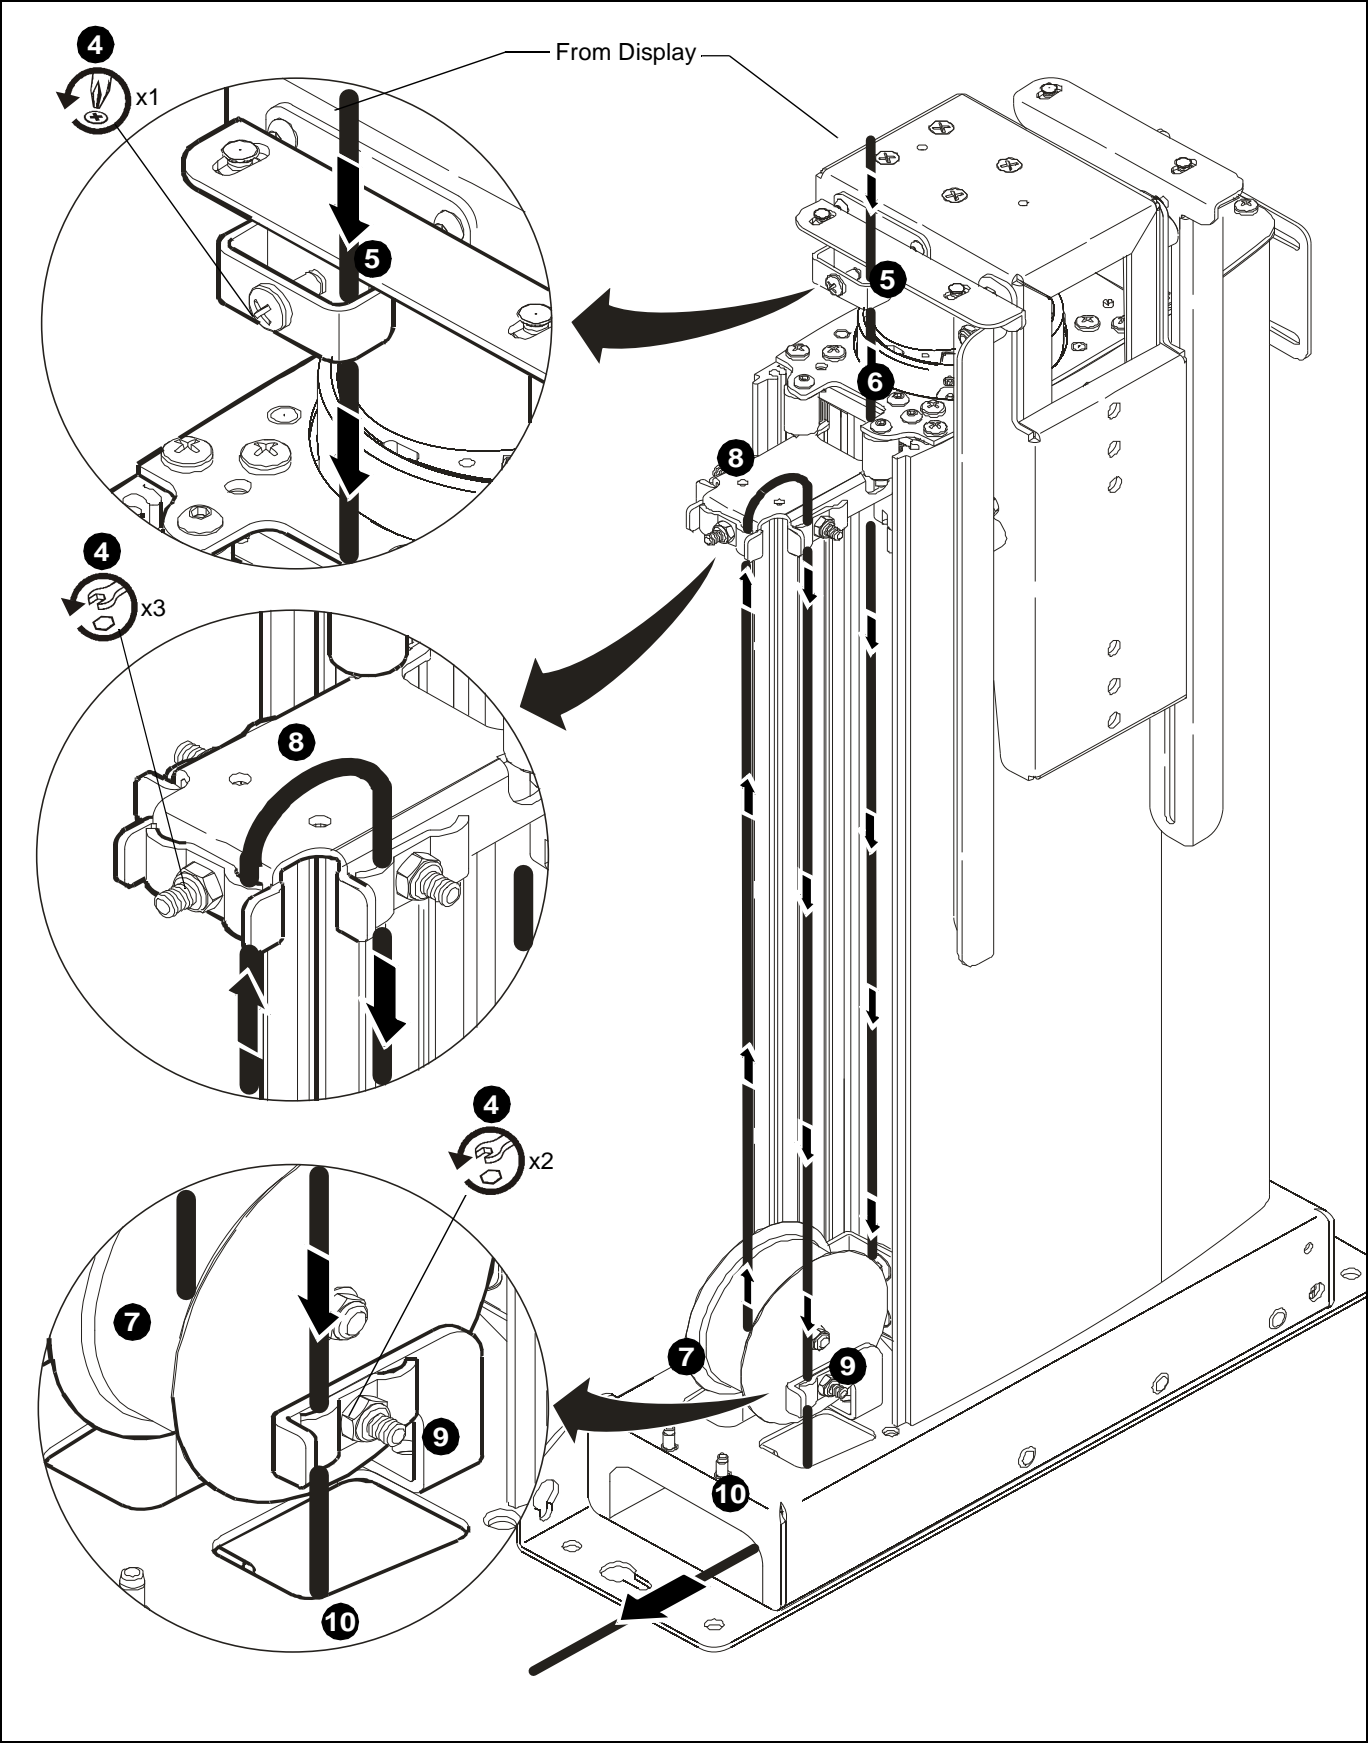
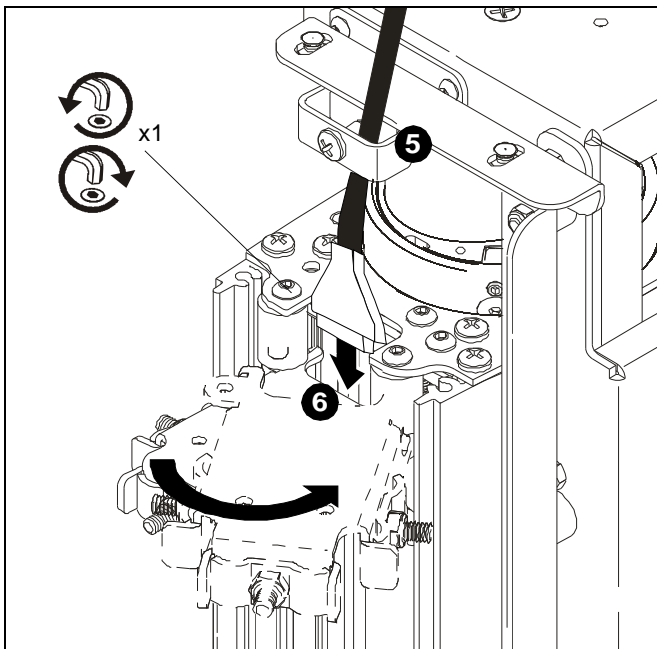

Figure 19
Figure 20
4. Loosen six cable clamps. (See figure 19)
5. Route cable(s) down through upper cable clamp. (See figure 19) and (See figure 20)
6. Route cable(s) down through opening at rear of middle cable clamp mounting bracket. (See figure 19) and (See figure 20)
CAUTION: Bracket mounting hardware **MUST** be reinstalled and tightened before continuing with cable installation. (See figure 20)
7. Route cable under cable pulley and up through front cable clamp on middle cable clamp mounting bracket. (See figure 19)
8. Loop cable and route cable down through side cable clamp(s) on middle cable clamp mounting bracket. (See figure 19)
CAUTION: Cables must not extend higher than 1" (25mm) above cable mounting bracket when looped! (See figure 19)
9. Route cable(s) down through lower cable clamp(s). (See figure 19)
10. Route cable through cable access opening in top of mount base and cable access opening in side of mount base. (See figure 19)
12. Starting at upper cable clamp and working downward, remove slack from all cables and tighten remaining cable clamps. (See figure 19)